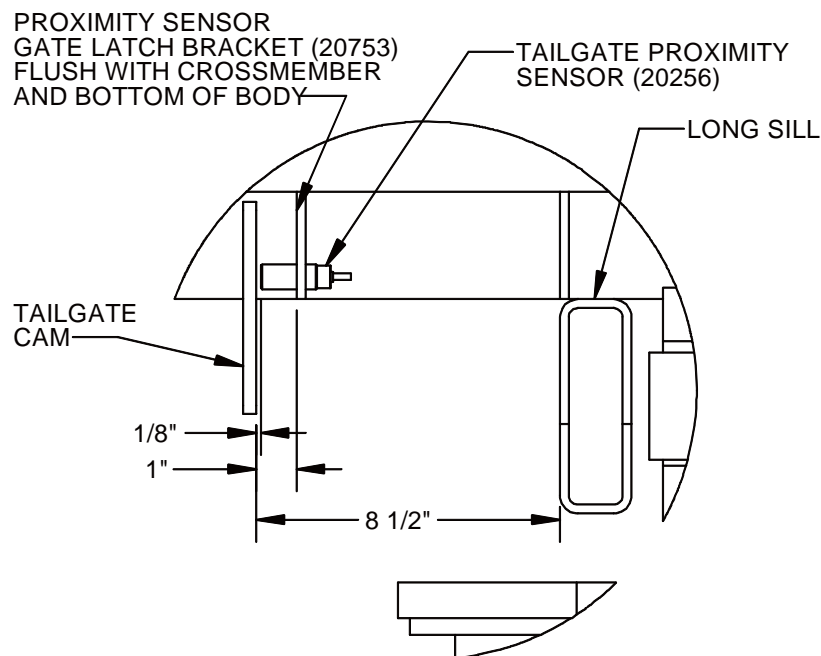

Figure 5 – Bracket Location for Gate Latch Position Detection
8. Weld the bracket for the tailgate proximity switch (20753) to the underside of the bed. Refer to Figure 5 for the proper bracket location.